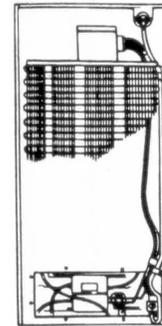

Figure 2
2. Identify the model style you are adding an icemaker to, see Figures 2, 3, & 4. For further references.